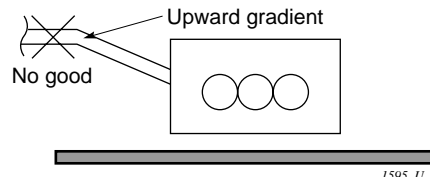

Fig. 3-83
- Do not install the pipe with an upward gradient from the connection port. This will cause the drain water to flow backward and leak when the unit is not operating. (Fig. 3-83)